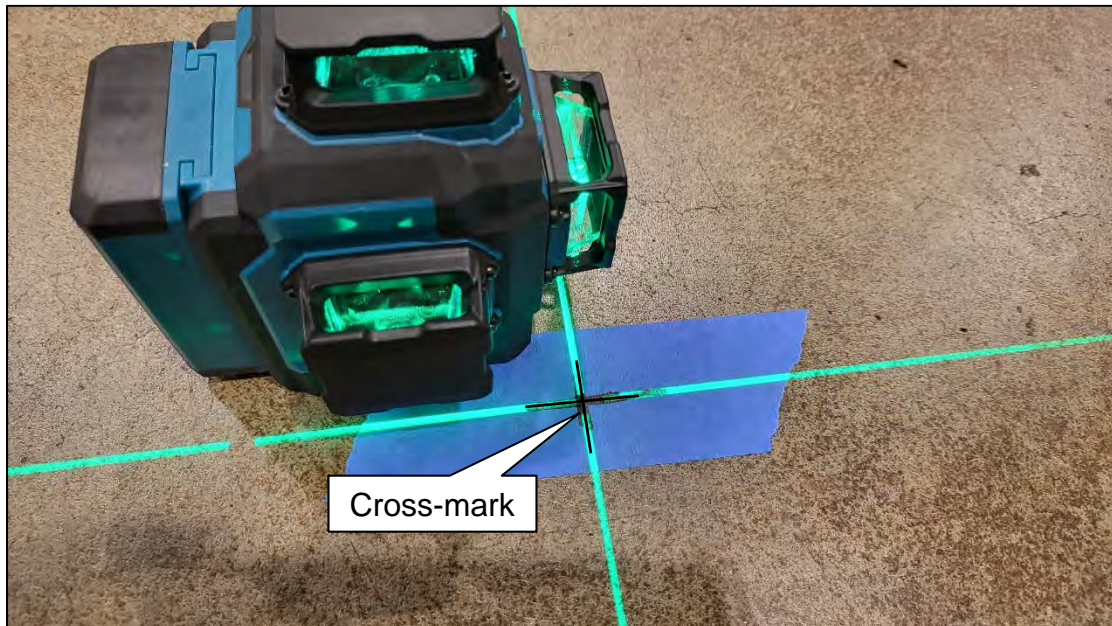

Figure 76
55. Place a cross-mark on the floor below the laser line (Figure 76).